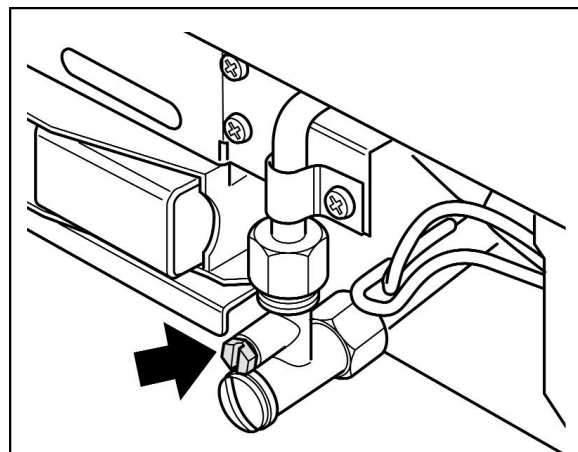

Figure 24. Pressure test point
1. Check the inlet pressure by fitting a pressure gauge at the test point. The test point is on the inlet ‘T’ connector (See figure 24). Check the pressure with the appliance alight